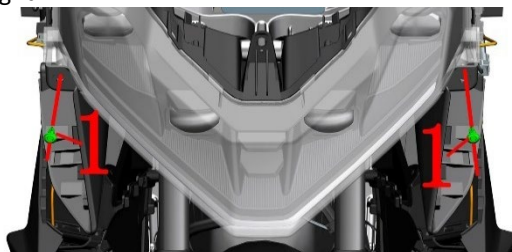

Figure 1
a. Use a #4 hex key or crochet hook to remove the two expansion bolts in Figure 1.